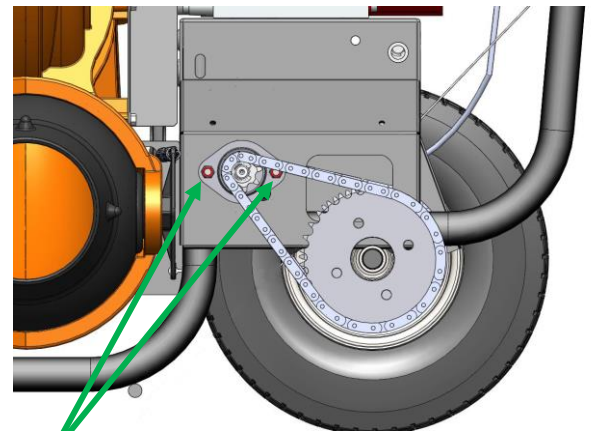

Fig. 7
4. Loosen the two nuts (item #98) holding the bearing (item #97). (See Fig. 7)